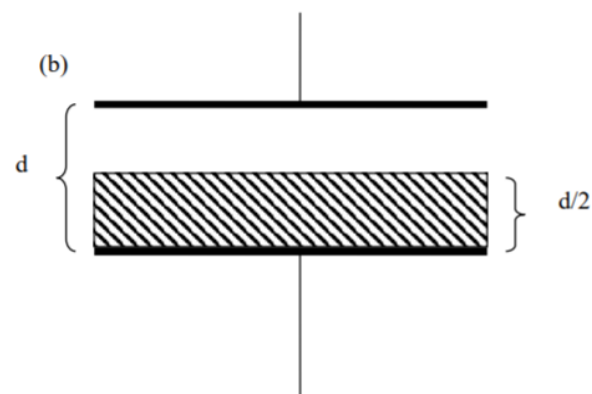

Figure 3
For figure 3, the inner boundary of the inductor can be thought of as a new plate. Thus, the capacitor is like two capacitors connected in series with half the distance between the plates each.
- e. Insert material as in figure 3